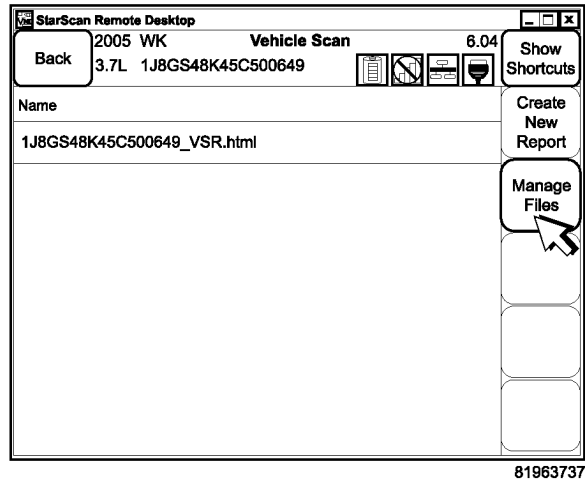

Fig. 8 VEHICLE SCAN - FILES SCREEN
9. After selecting “Finish”, the following screen appears. Select “Manage Files” to copy the file to the USB key (Fig. 8).